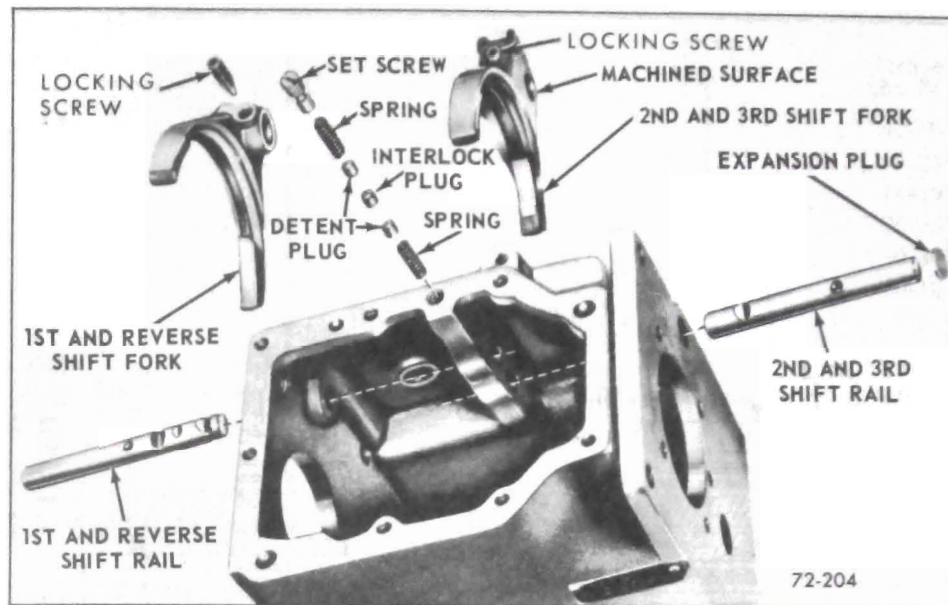

Figure 72-204 - Shift Rails, Forks, and Detent Plugs
6. Remove set screw, spring, interlock plug, detent plugs, and spring. See Figure 72-204.
7. With transmission in neutral, remove shift fork to rail locking screws. See Figure 72-204.